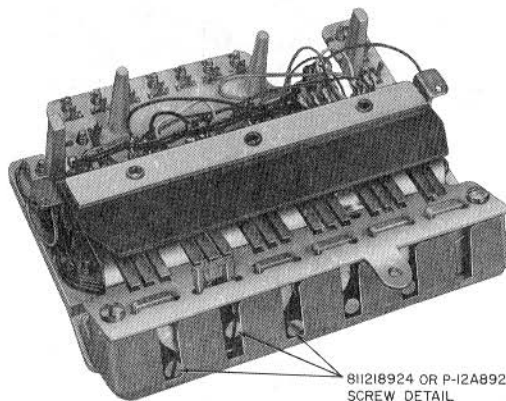
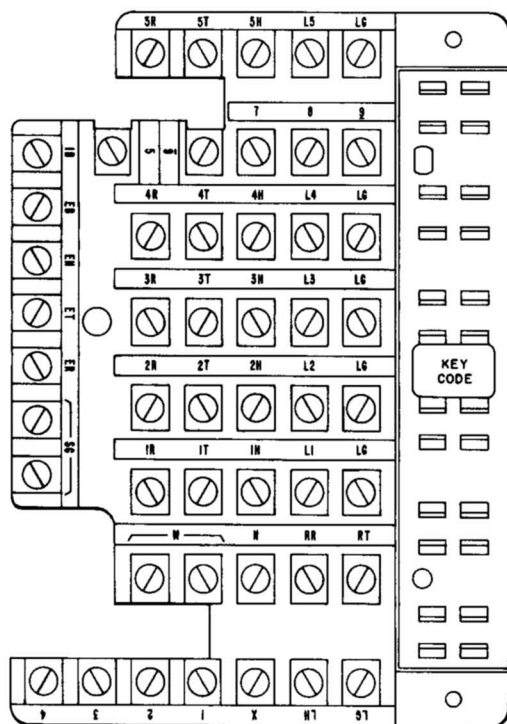
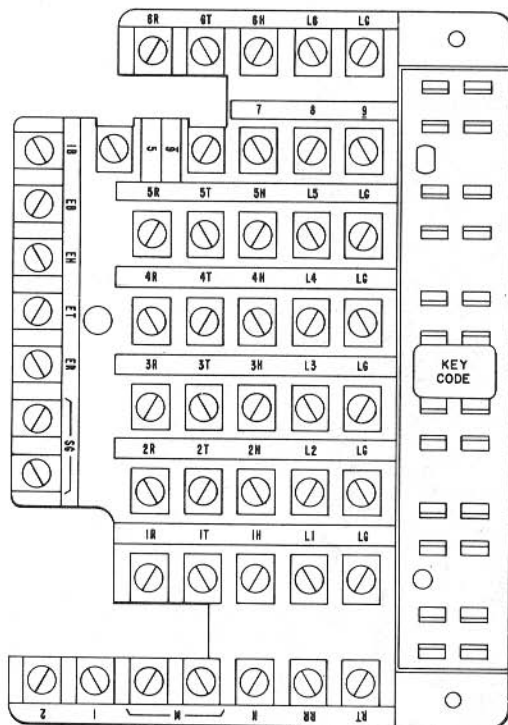

Fig. 1—636A Key, Bottom View
Fig. 2—Terminal Board for the 636A and 589Y Key
Fig. 3—Terminal Board for the 636B Key
2.01 The 636-type key (Fig. 1) has a terminal board arrangement to accommodate matching cord terminal wafers, so that any line connected to the set can be interchanged readily to appear on any five line pickup keys. See Fig. 2 and 3 for terminal designations on the 636A and 636B, respectively.
2.03 Certain pickup buttons on 4- and 6-button sets are arranged for conversion to signaling. To convert, remove 811218924 (P-12A892) screw detail (Fig. 1) and make necessary wiring changes. Table A shows key and associated telephone sets with convertible buttons.
2.25 The 589Y and 636A use 814319836 (P-43A983) terminal board (Fig. 2). The 636B uses the 814454005 (P-44E400) terminal board (Fig. 3).